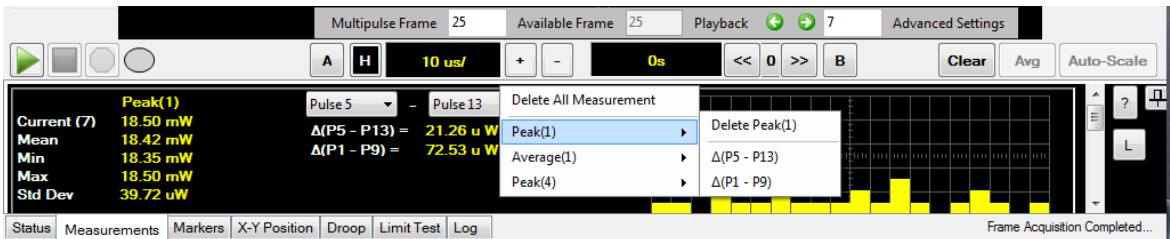

Figure 2-93 To delete multipulse measurement results on the multi-purpose pane
- 4 To remove the measurement functions results from the Measurement view, select the Measurement view area to display the delete measurement menu and select **Delete > All Measurements**. To remove only specific measurement function results, select the specific measurement function or delta to be deleted as shown in Figure 2-93.